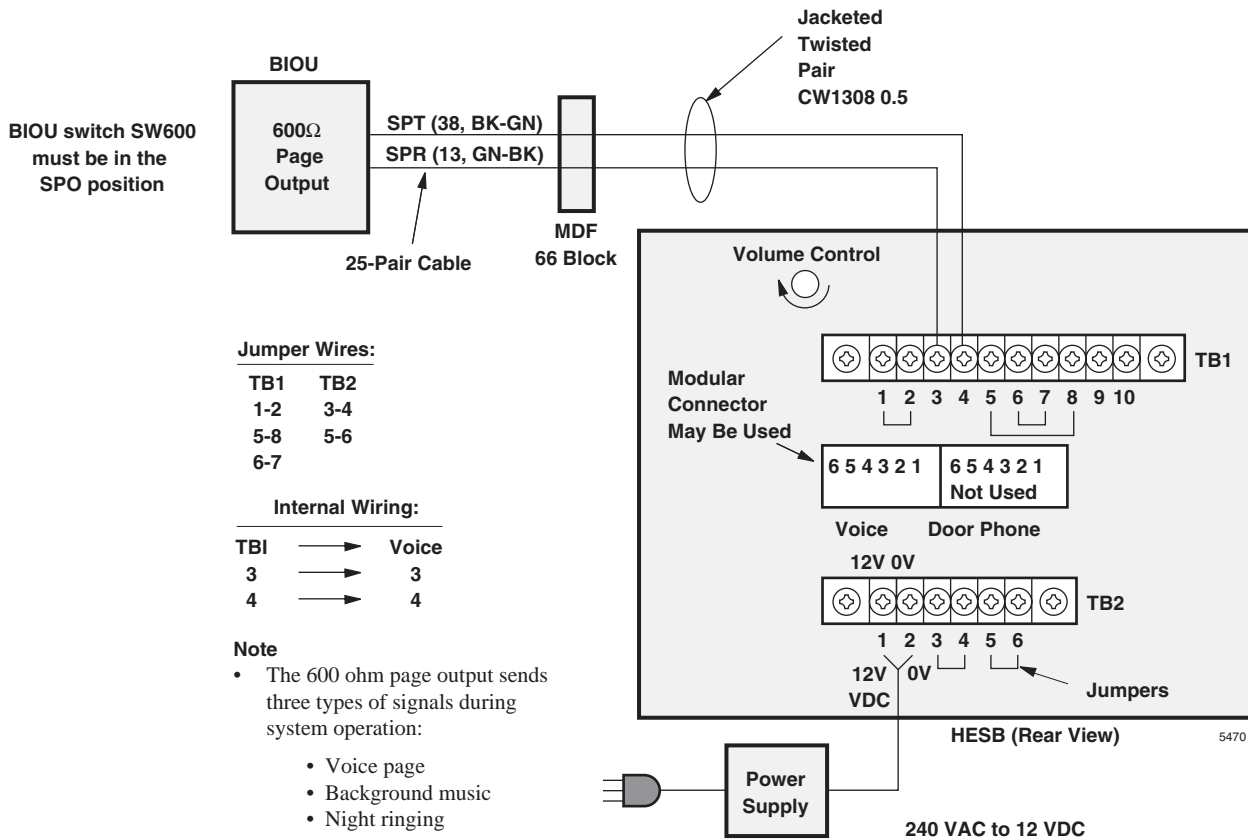

Figure 8-22 Amplified Page Speaker with HESB Interface
1. Connect a jumper between terminals 1 and 2 of the HESB TB1 terminal block (see Figure 8-22).